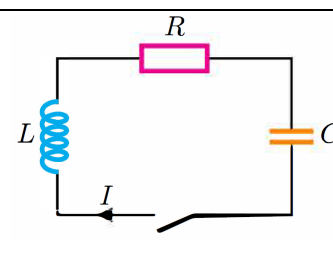

Fig. 4 RLC circuit in serial connection
RLC circuit: Electrical circuit consisting of a resistor (R), an inductor (L), and a capacitor (C). It forms a harmonic oscillator for current, and resonates. Introducing the resistor increases the decay of these oscillations, which is also known as damping. The resistor also reduces the peak resonant frequency. The capacitor in Fig. 4 is charged when the switch is open. When this is closed, the capacitor will discharge by a current flowing in the circuit.